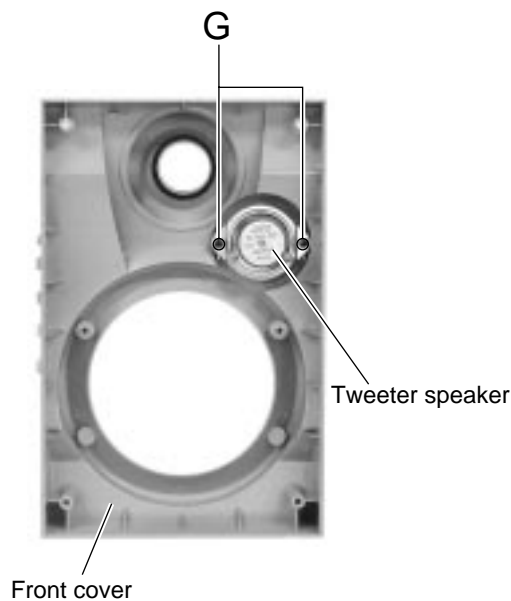

Fig.8
**■ Removing the tweeter speaker (See Fig.8)**